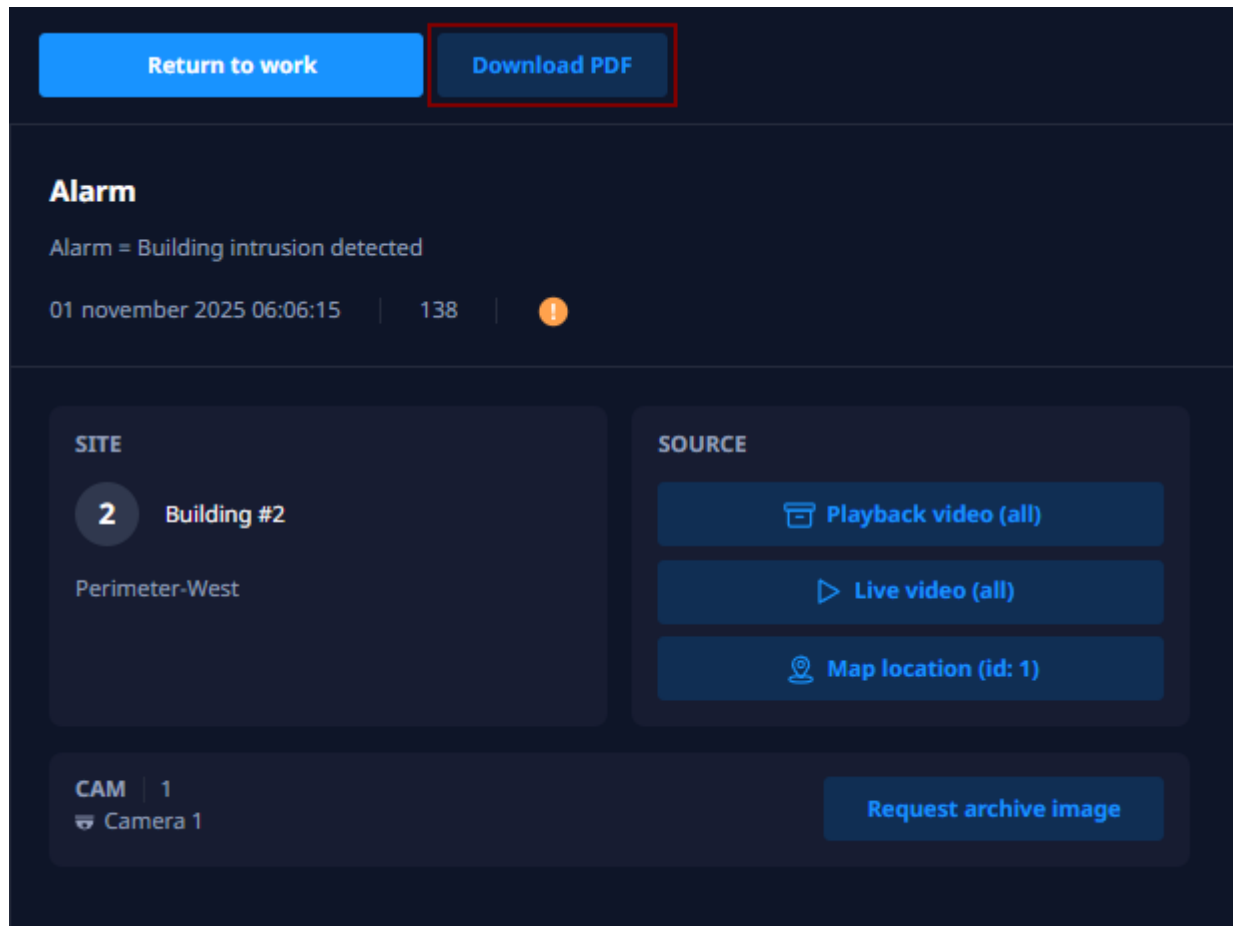

Figure 70. Creating report on specific incident
2. In the opened window (see Figure 70), click the **Download PDF** button.